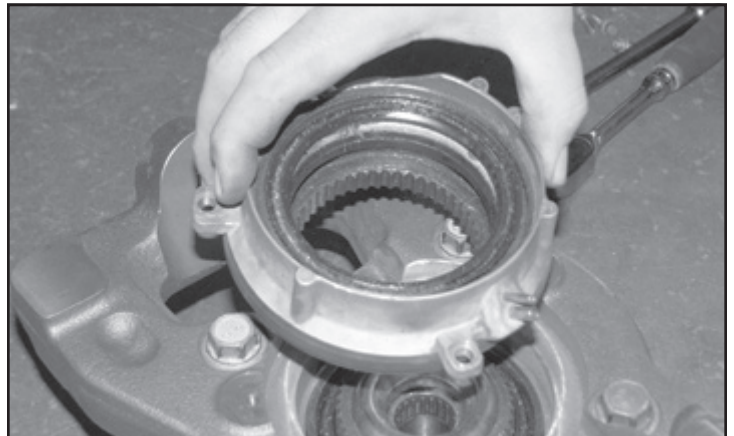

FIGURE 34 - STEP 40
40. Locate the factory 4WD actuator and install into the Fabtech spindle. Torque the factory 8mm bolts to 17 ft-lbs. **SEE FIGURE 34**